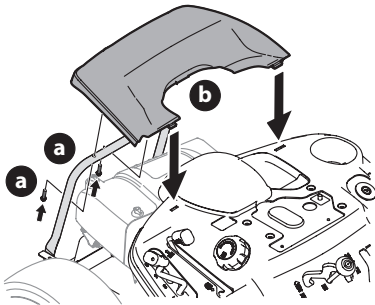

Figure 14
1. Remove the two factory-installed hex screws (a) located on the rear engine cover (b). Retain the hex screws (a) for later instructions (Figure 14).
2. Install the rear engine cover (b) by positioning it in place as shown in Figure 14. Tip the rear engine cover (b) forward to fit it into the slots provided, then rotate it backwards to align the mounting holes.
3. Secure the rear engine cover (b) with the two hex screws (a) removed in Step 1. Do not over-tighten (Figure 14).